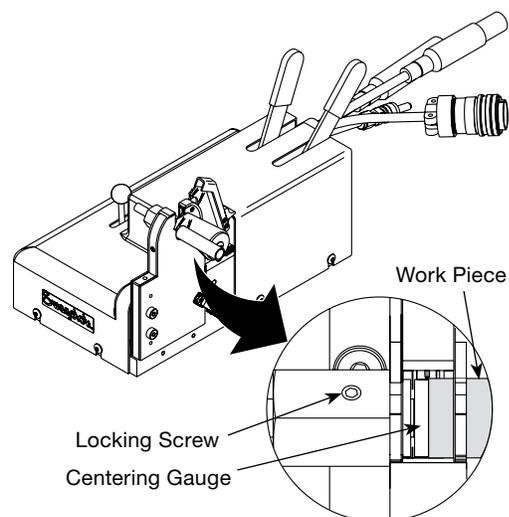

Figure 26 Inserting the Work Piece
6. Insert the work piece into the other side of the fixture and butt it squarely against the end of the centering gauge. See Figure 26.